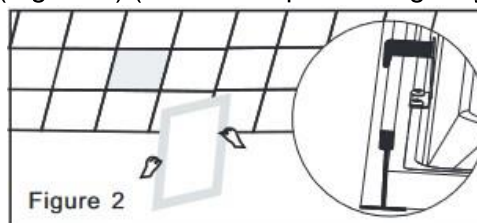

Figure 2
Step 2. Turn off power, remove the ceiling panel, then place LED luminaire into the T-bar, ensuring the LED luminaire is attached to the ceiling. (Figure 2) (J-Hook for positioning only)